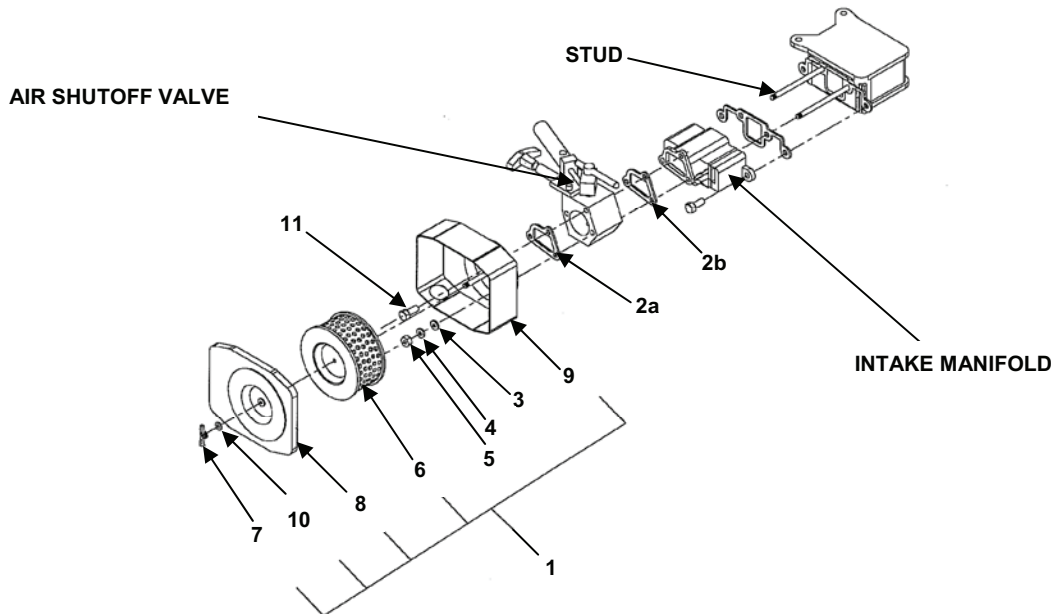

Figure 2. Air Cleaner Assembly.
- Disconnect air filter assembly (Figure 2, item 1). Remove the wing nut (Figure 2, item 7), cover (Figure 2, item 8), and filter element (Figure 2, item 6) from the filter housing (Figure 2, item 9). Washer (Figure 2, item 10) is affixed to cover (Figure 2, item 8).
- Remove two nuts (Figure 2, item 5), two washers (Figure 2, item 4), two lock washers (Figure 2, item 3) and one bolt (Figure 2, item 11) from the filter housing.
- Remove filter housing (Figure 2, item 9) from the shut off valve.
- Remove the gasket (Figure 2, item 2 a). Replace if damaged.
- Remove the gasket (Figure 2, item 2 b). Replace if damaged.